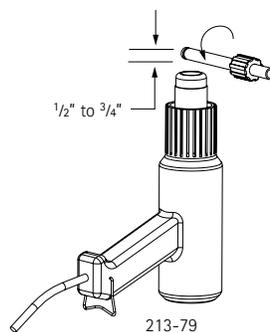

Figure 9
1. If using an Entegris hot air gun (Part Number 213-79), set the hot air gun on "high." Hold the PFA tubing 1/4" to 1/2" above the heater and slowly rotate the tubing 360° for the approximate time specified in Table 18 or until a fine, clear line appears around the tubing (see Figure 9).